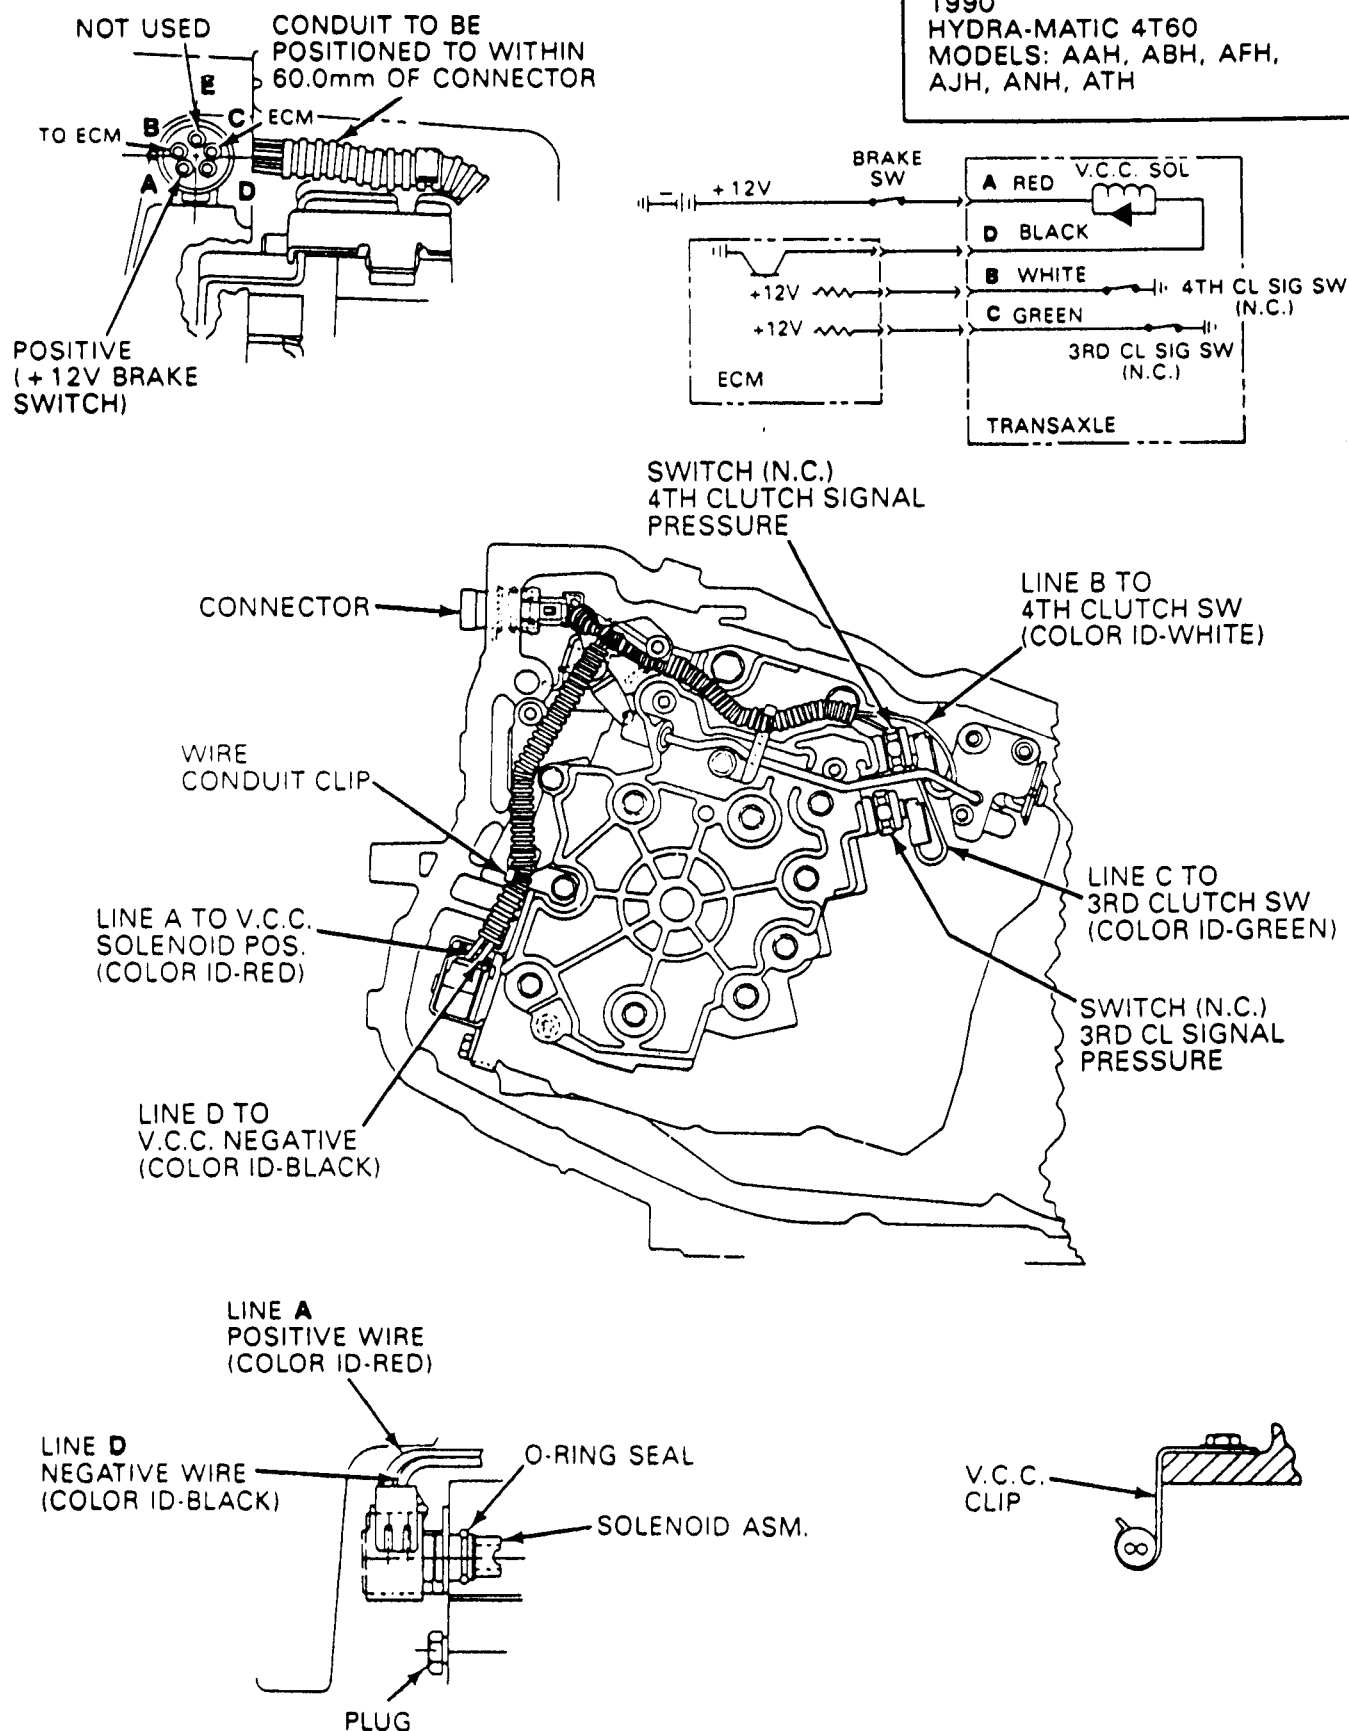

Figure 8
- (2) **WIRING HARNESS** - The new wiring harness will have different type connectors to accomodate the new "Button" head switches. Refer to Figures 8, 9, & 10 for wiring harnesses.